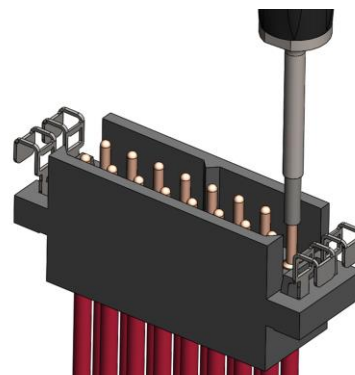

Fig. 2
- C. When testing pins, place the tool over the top radius of the pin contacts (Fig. 2)